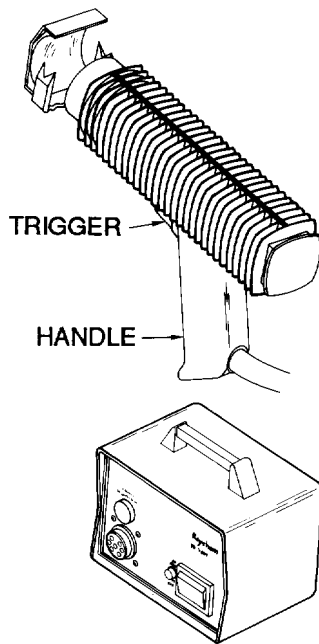

Figure 14. Infrared Heating Tool, IR-1759 with Standard Electronic Control ED-7-004
43. MiniRay infrared heating tool, IR-1759 (Figure 14), is a small, lightweight, medium-duty hand heating tool
44. PRE-OPERATION. Prior to using infrared heating tool (Figure 14), proceed as follows:
48. **OPERATION.** To operate infrared heating tool (Figure 14), proceed as follows:
49. **POST-OPERATION.** After using infrared heating tool (Figure 14), proceed as follows: